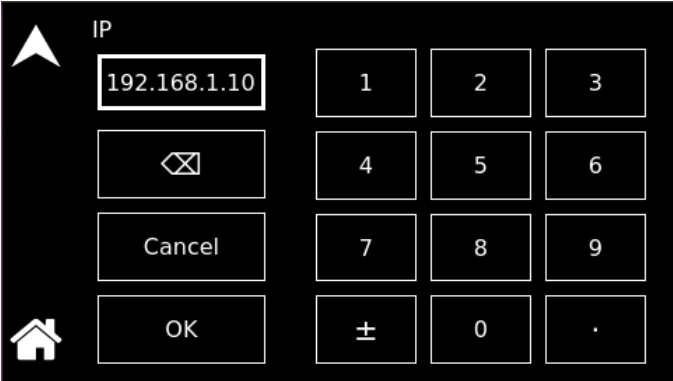

Figure 10-187. LAN Screen - IP Address
- IP Address:** Sets the static IP address for the unit. When DHCP is turned off in the LAN CONFIG sub-menu, AUTO IP is selected, set the IP address to all zeros so that the IP address would be requested from the network; when DHCP is selected, the IP address is assigned by the network DHCP server. Refer to Figure 10-187.